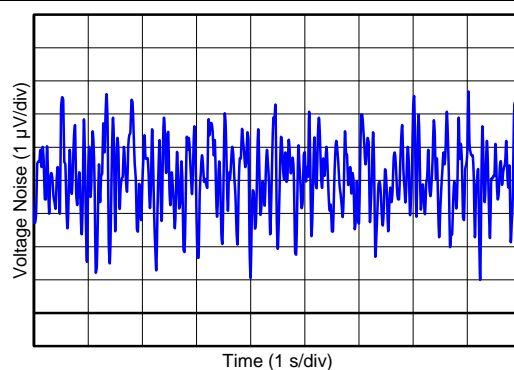

Figure 6. 0.1-Hz to 10-Hz Input Voltage Noise
0.1-Hz to 10-Hz Input Voltage Noise (5.5 V)	Figure 6